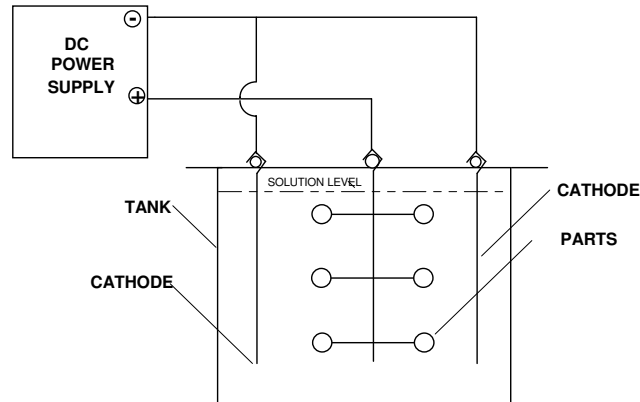

FIGURE 1. Schematic illustration of typical electropolishing
Figure 1 is a schematic illustration of a typical electropolishing cell. The work piece is connected to the positive (or anodic) terminal, while the negative (cathodic) terminal is connected to a suitable conductor. Both terminals are submerged in the solution, forming a complete electrical circuit. The current applied is direct (DC) current.